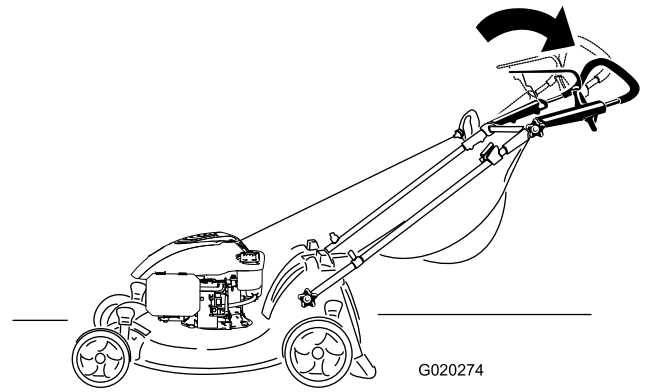

Figure 15
2. Move the upper handle to the desired position (Figure 15).